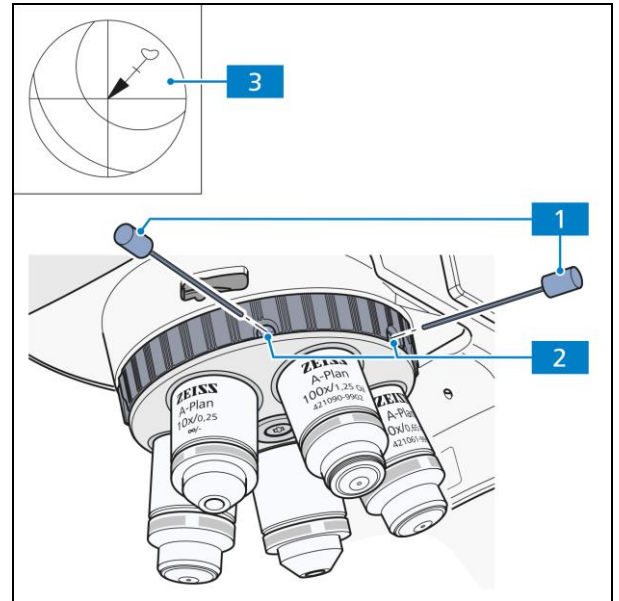

Fig. 3-12 Centering objectives
- Rotate the stage to determine the position of maximum offset of the specimen feature (Fig. 3-12/3, origin of the arrow) from the center of the eyepiece reticle.
- Reset the two centering screws on the stage carrier (Fig. 3-12/2) using one AF 1.5 Allen wrench (Fig. 3-12/1) each to move the specimen detail by half the arrow length in the direction of the crossline center. Check whether the specimen detail moves when the stage is rotated again; repeat the procedure if required.